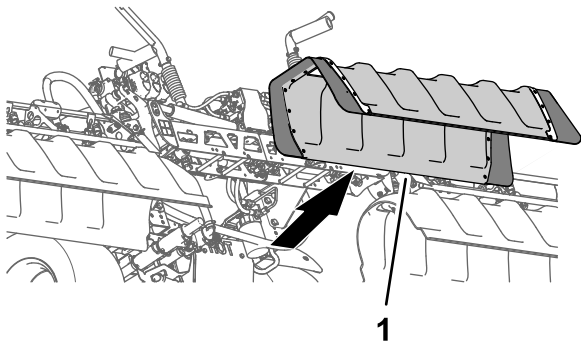

Figure 28
2. Remove the center-section cover from the machine (Figure 28).